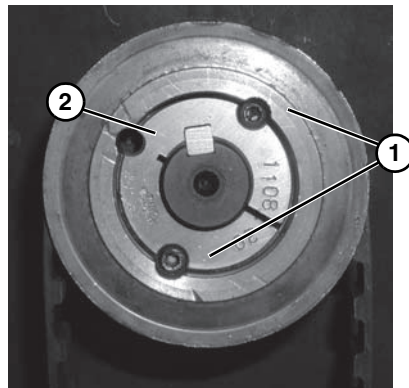

Figure 16
4. Loosen taper-lock screws (**Figure 16, item 1**) and remove drive pulley: Insert one (1) of taper lock screws in remaining hole (**Figure 16, item 2**). Tighten screw until pulley is loose.